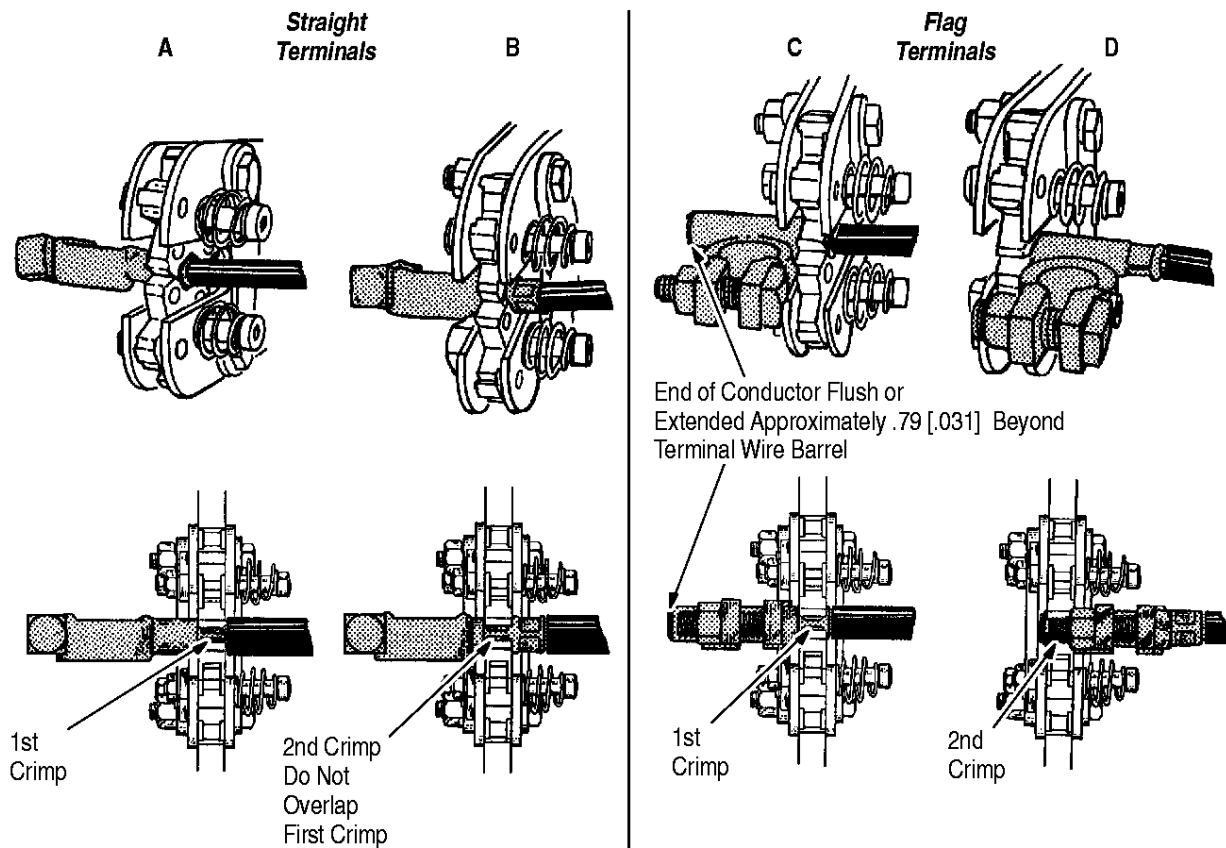

Figure 6
4.3. Crimping Procedure for Straight Terminals (Figure 6)**A. First Crimp**
4.4. Crimping Procedure for Flag Terminals (Figure 6)
A. First Crimp (Figure 6)
B. Second Crimp (Figure 6)